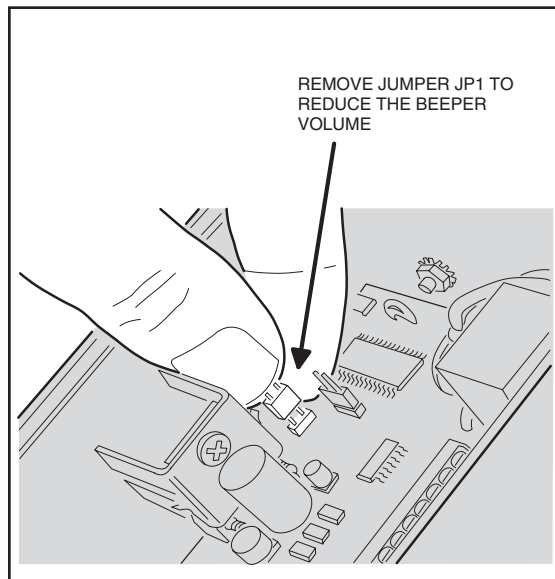

Figure 9. Removing the Beeper Jumper
- ❑ If the keypad's beeper is too loud for the keypad's location, remove jumper JP1 (see Figure 9).